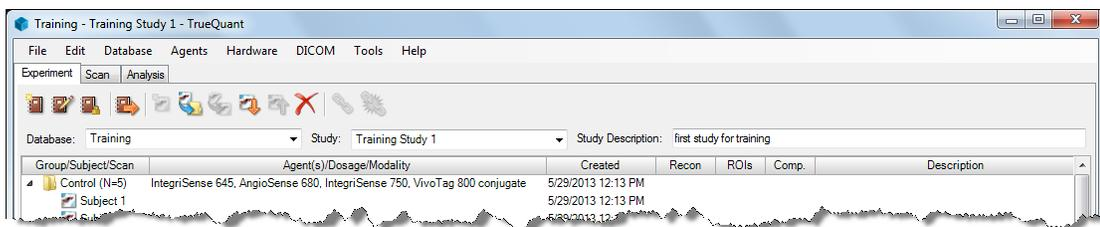

Figure 5-2. Experiment Tab
1. Select the desired database in the **Database** drop-down list on the Experiment tab (see Figure 5-2). If the desired database does not exist, create the new database on the local computer or on a network server (see “Creating Databases” on page 109).